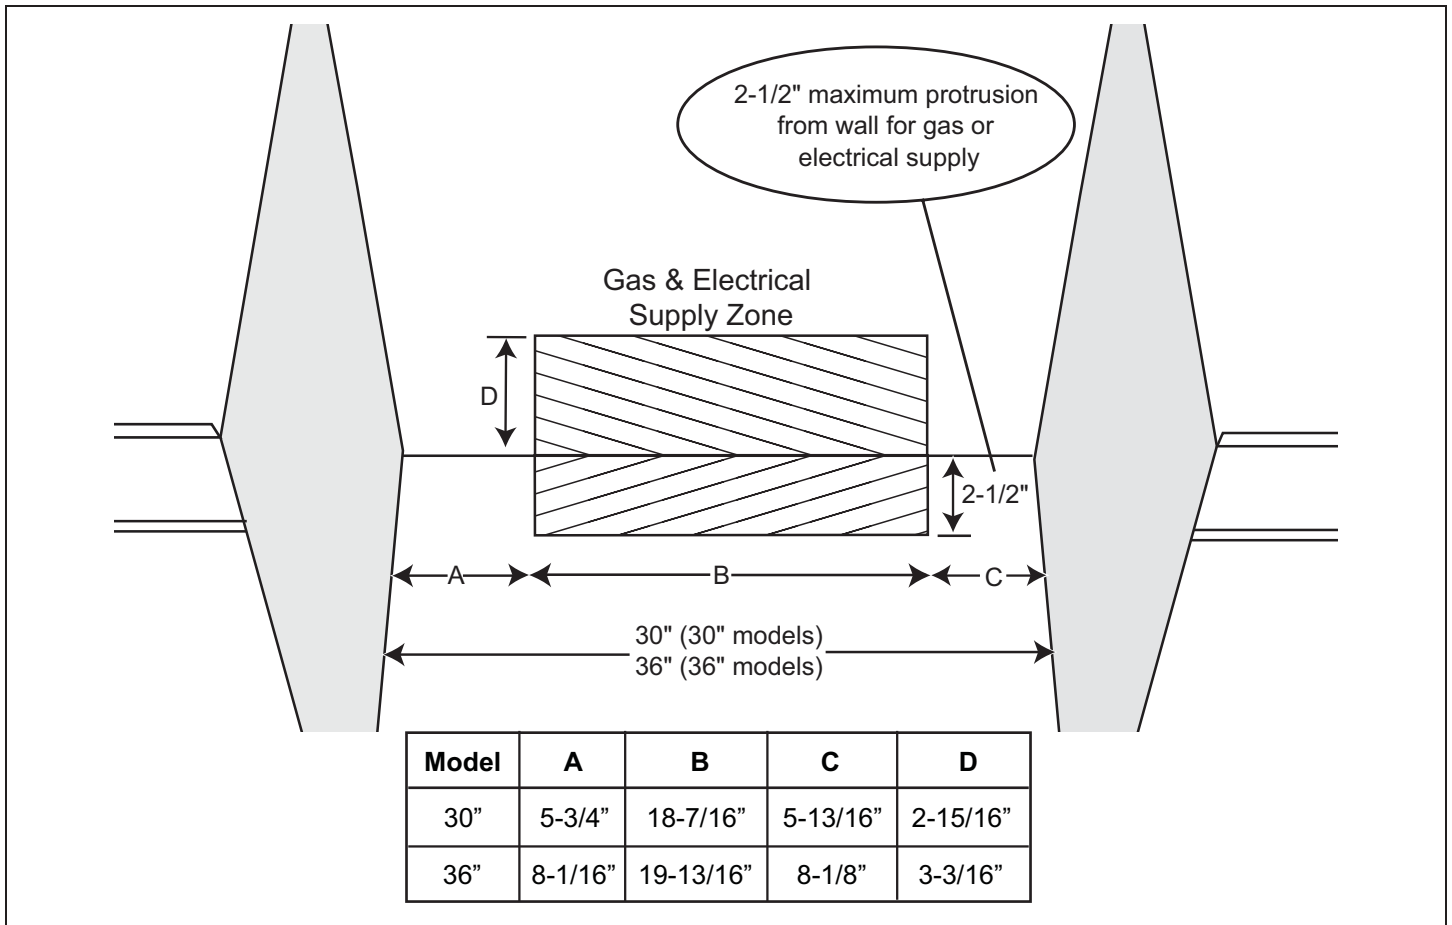

Figure 3a: Gas & Electrical Supply Locations for All Gas Ranges
3. The gas and electrical supply should be within the zone shown in Figure 3a.